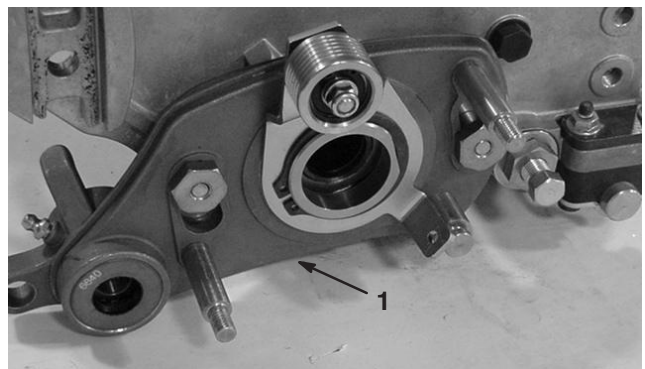

Figure 6
9. Insert the left-hand drive assembly onto the capscrews and secure with (2) shoulder nuts (Fig. 6). Make sure the side plate rotates freely.